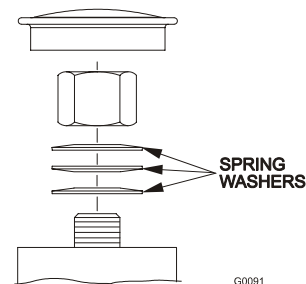

FIGURE 16
- a) Remove dust cap from caster and tighten nyloc nut until washers are flat and back off 1/4 of a turn to properly set the pre-load on the bearings. If disassembled make sure the spring washers are reinstalled as shown in Figure 16.